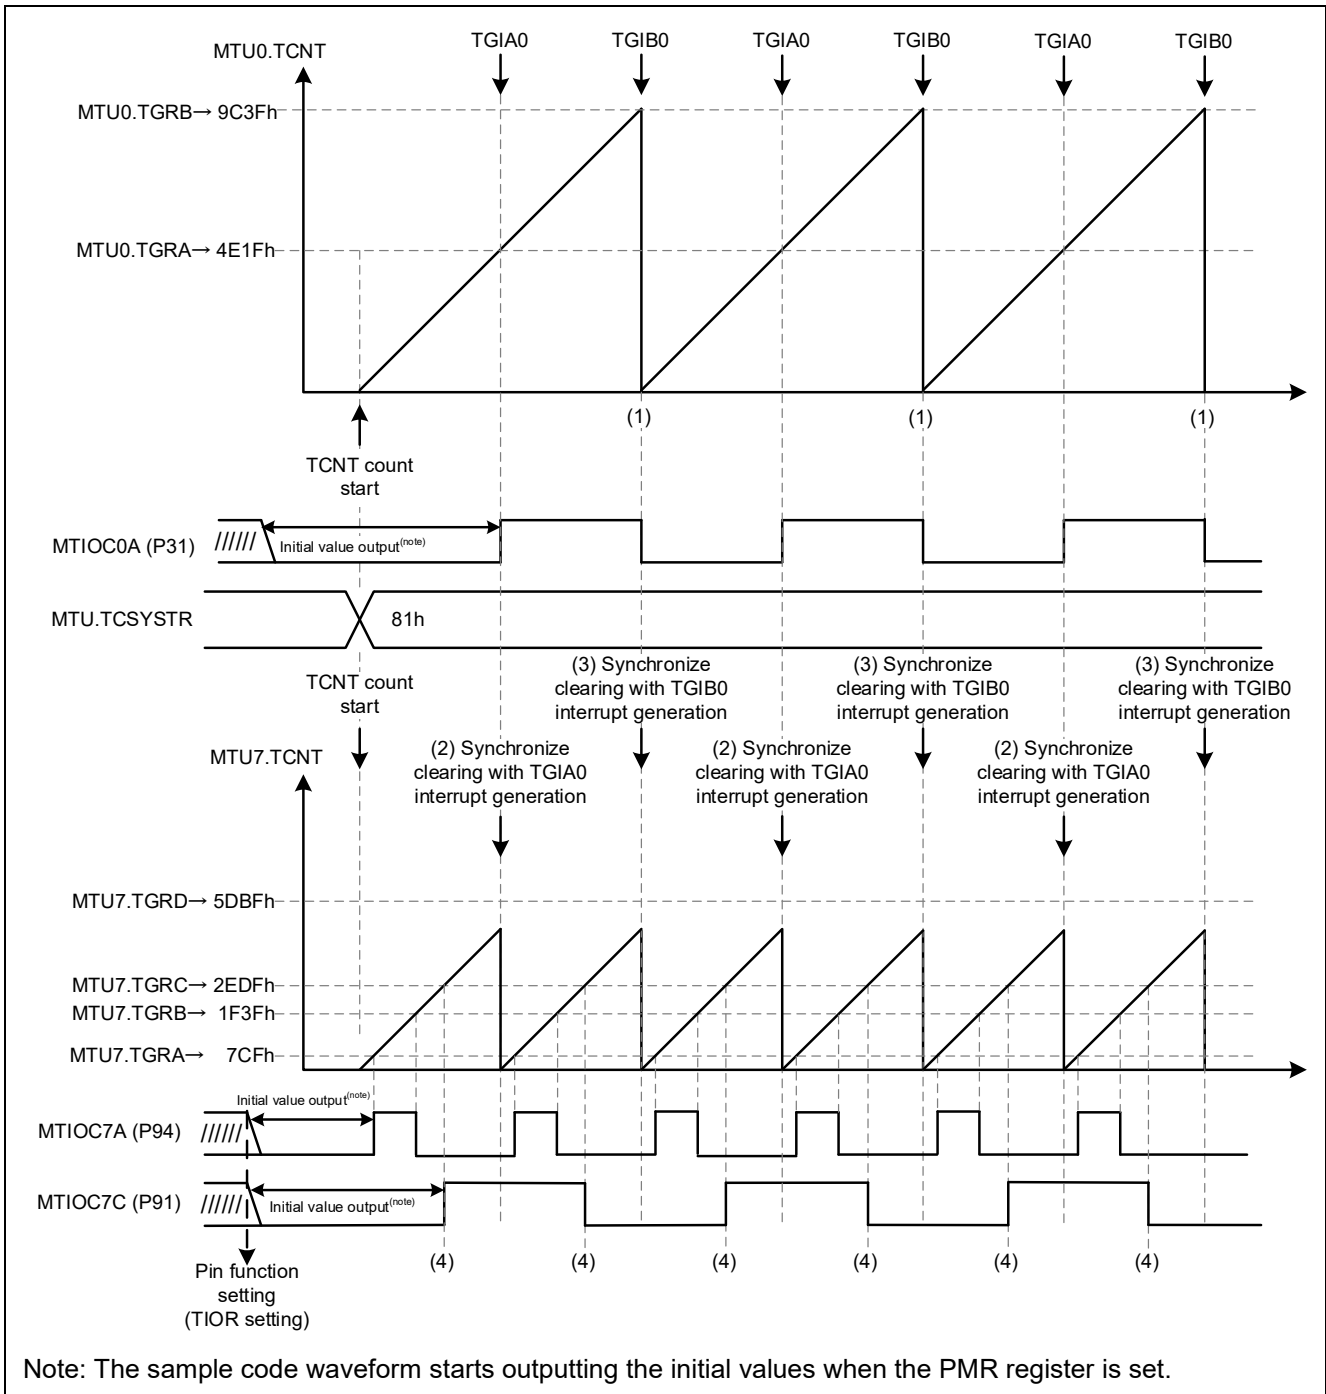

Figure 3.38 Operations After Setting Changes
Figure 3.38 shows operations after the settings have been changed.
MTU0.TGRB is used as the period register and MTU0.TCNT is counter cleared at a TGRB compare match ((1) in Figure 3.38). MTU7.TCNT is counter cleared at the MTU0.TGRA compare match interrupt (TGIA0) generation timing ((2) in Figure 3.38) and the MTU0.TGRB compare match interrupt (TGIB0) generation timing ((3) in Figure 3.38). Note that the timing of the MTU0.TGRA compare match and (2), and the timing of (1) and (3), are not simultaneous.
In the same manner as MTIOC7A, MTIOC7C toggles output each time an MTU7.TGRC compare match occurs ((4) in Figure 3.38). Because MTU7.TCNT is cleared before the MTU7.TGRD compare match occurs, the MTU7.TGRD compare match does not occur and output does not change.